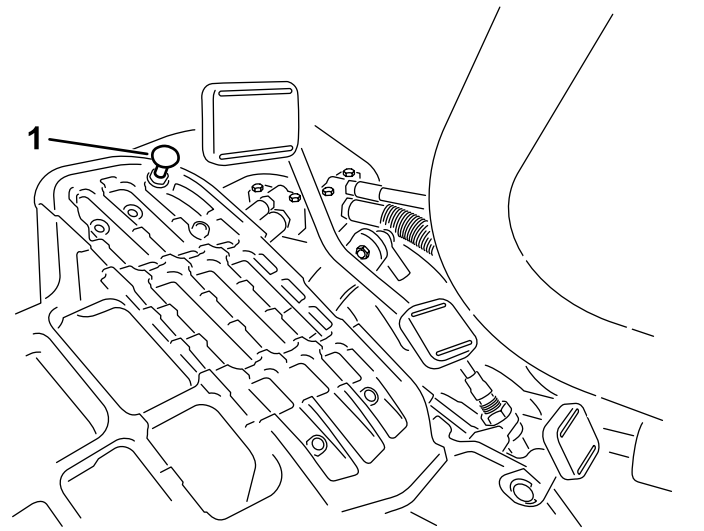

Figure 54
To obtain the maximum-transport speed, put the functional control lever in the TRANSPORT position and press down on the traction pedal. If the pedal contacts the stop (Figure 54) before you feel tension on the cable, perform the following adjustment procedure:
1. Put the functional-control lever in the TRANSPORT position and loosen the locknut securing the pedal stop to the floor plate (Figure 54).